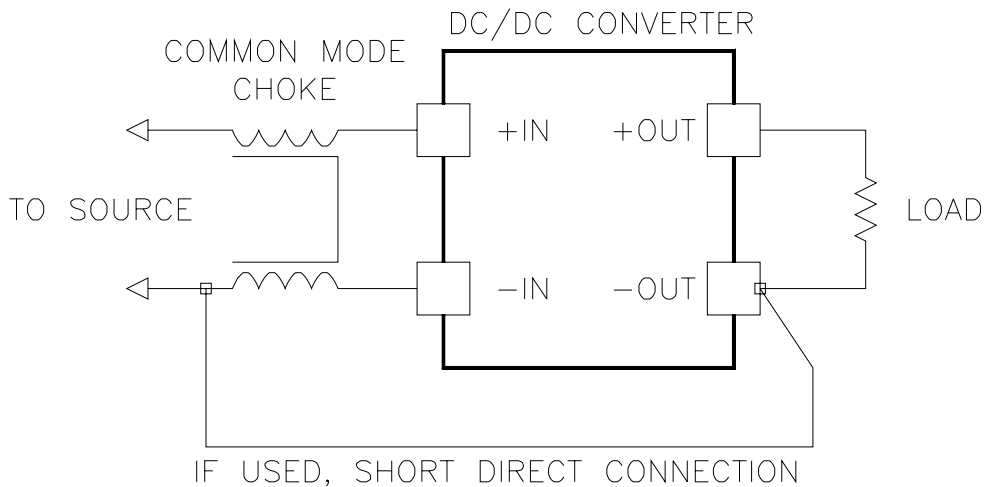

Figure 4c.
3. Block the common mode current from flowing out of the converter by using a common mode choke on the input side. These devices are often incorrectly referred to as a BALUN (meaning BALanced to UNbalanced transmission line impedance transformer). They are, however, typically a small high permeability, ferrite or MPP toroid that is wound with two windings. These devices present a very low impedance to any normal mode signal flowing through the lines (DC current, for example). However, they present a very large impedance to any common mode signals that try to flow through both windings in phase, such as the DC/DC converter's common mode current (see Figure 4c).